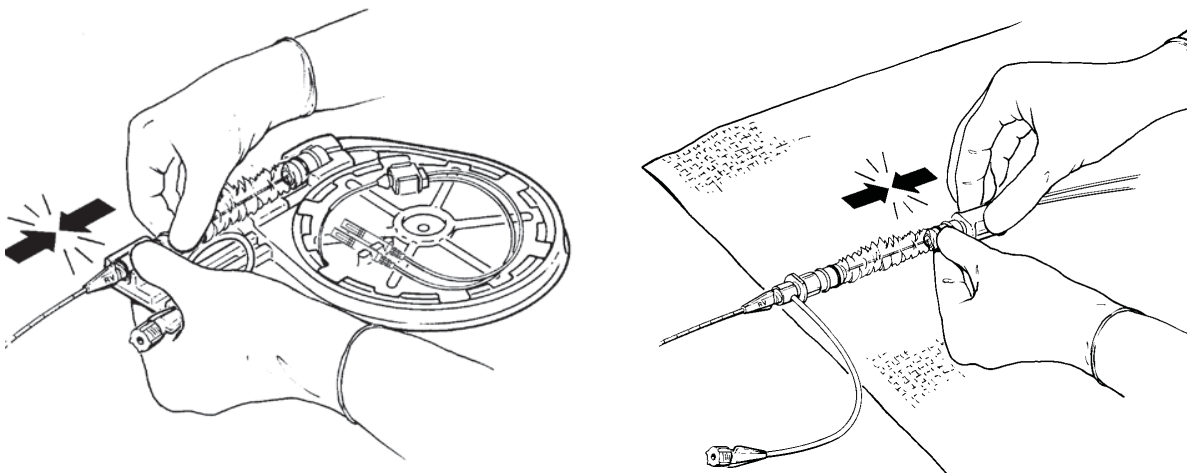

Figure 4. Attachment of contamination sheath to T-B adapter and probe
6. Attach the distal end of the probe contamination sheath to the T-B adapter. Remove the probe and T-B adapter from the dispenser, and, to help maintain sterility of the probe, attach the other end of the sheath to the proximal end of the probe (See page 5, Fig. 4).